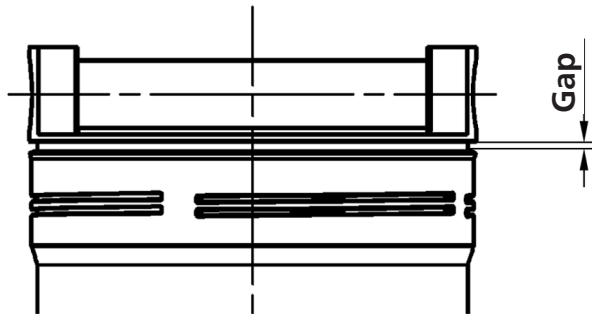

Fig. 4: Gap between cover and housing
- › The cover of the filter housing must be properly closed. If necessary, turn the cover by hand as far as it will go; there may be a gap that remains visible between the cover and the housing (see fig. 4)